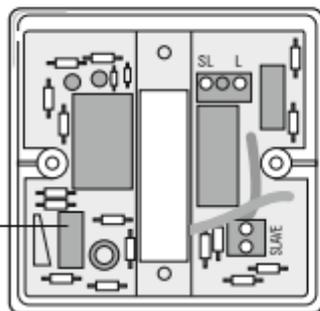

Fig 2 – Rear of DS1
- On the rear of the DS1 shown below in figure 2 you will notice the terminals "L (Live)" and "SL (Switched Live)"; connect the 230V AC 50Hz mains supply to terminal "L (Live)" and the switched live feed cable to "SL (Switched Live)". Ensure the terminals are tight.